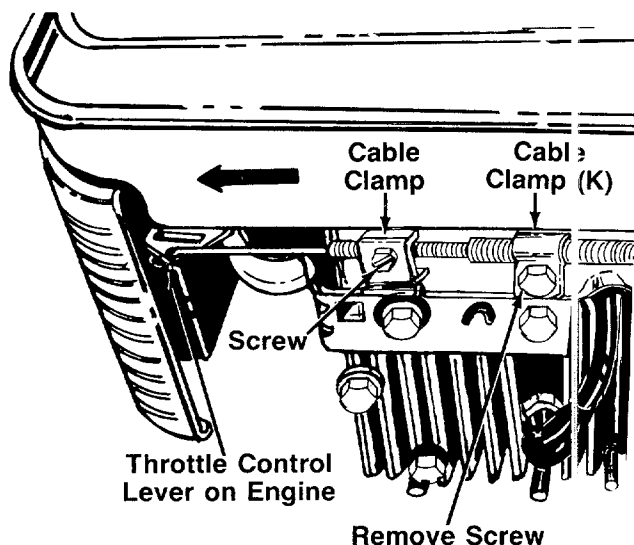
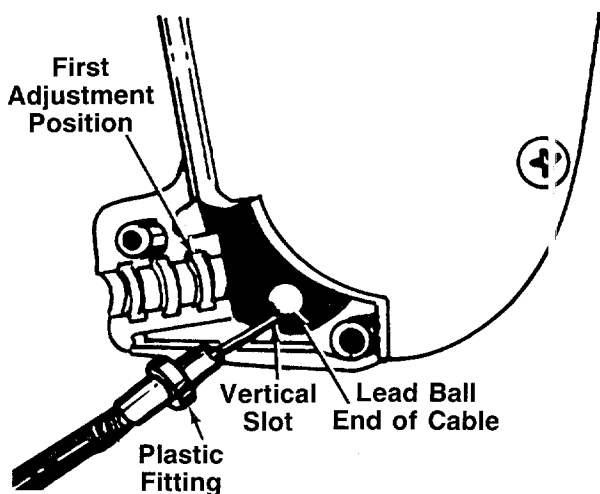

FIGURE 7.
FIGURE 8.
9. Using a 7/16" wrench, remove the screw on the engine shown in figure 7.
10. Remove the screw on the cable clamp shown in figure 7. Slip the control casing under the clamp. Replace the screw, but do not tighten (cable must still move freely beneath the clamp).
11. Slide the throttle control lever on the engine as far toward the **outside** of the engine as it will go **easily** (just until resistance is felt) as shown in figure 7. (**Do not** force it into the extreme outside position, which is the **CHOKE** position). Tighten the screw to secure the throttle control cable in this position.
13. Secure cable casing to the front of engine with cable clamp (K) provided in hardware pack and screw removed from engine in step 9. Do not over-tighten.
a. Place the lead ball end of the cable into the fitting provided in the end of the clutch control lever. Slip the braided wire into the vertical slot as shown in figure 8.
c. Place the plastic fitting on the control cable into the first adjustment position in the clutch control housing. See figure 8.
When starting the unit for the first time, face the mower against a solid object such as a wall, fence, etc. Start the unit, and if it shows any signs of motion with the drive clutch control disengaged, shut the engine off immediately. Check the position of the drive clutch control cable. The plastic fitting must be assembled in the first adjustment position inside the housing, all the way to the right, as shown in figure 8.